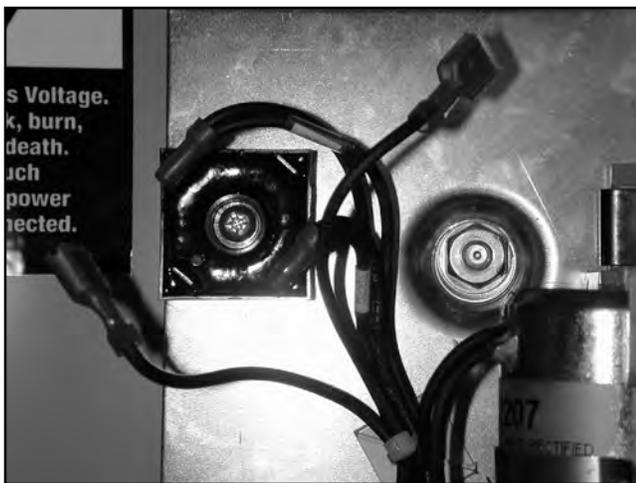

Figure 6-14 Rectifier Connections (DC solenoid leads shown disconnected)
5. Remove DC fast-on connections from the rectifier terminals. See Figure 6-14.